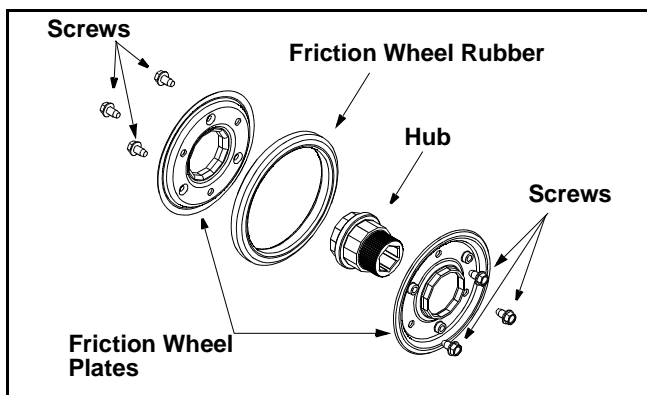

Figure 17
- Remove the six screws from the friction wheel assembly (three from each side). Remove the friction wheel rubber from between the friction wheel plates. See Figure 17.